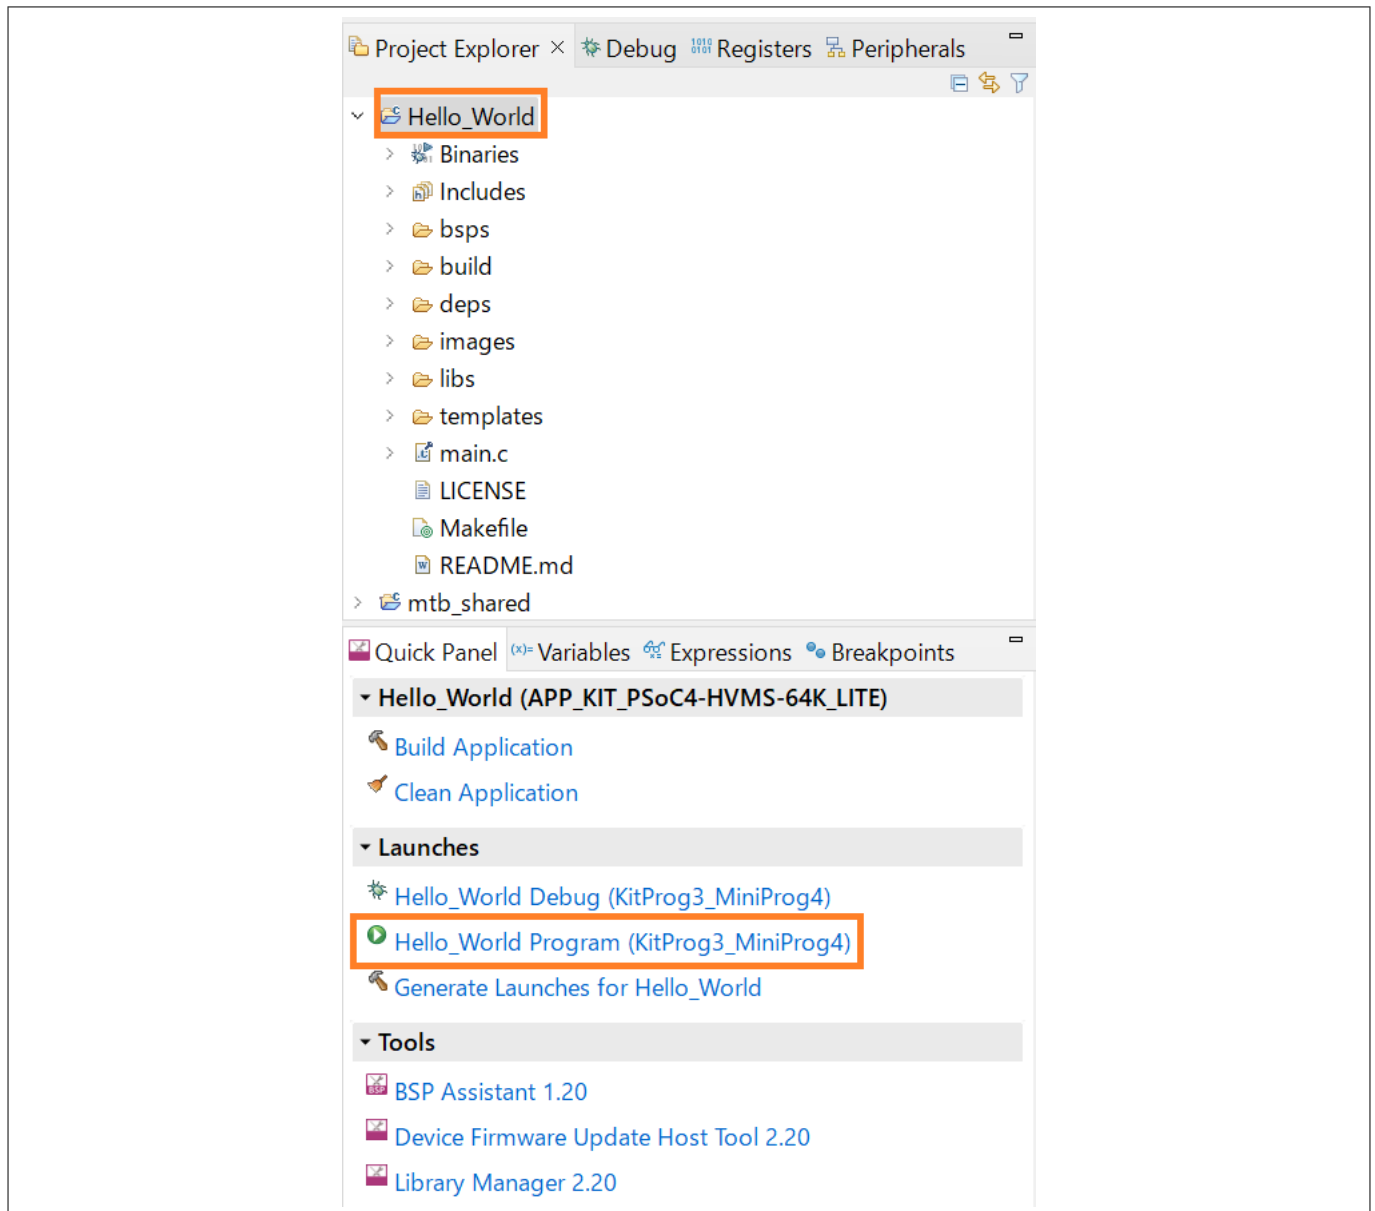

Figure 14 Programming an application to a device
- b. Select the application project and click on the **<application name> Program (KitProg3_MiniProg4)** shortcut under the **Launches** group in the **Quick Panel**, as Figure 14 shows. The IDE will select and run the appropriate run configuration. Note that this step will also perform a build if any files have been modified since the last build